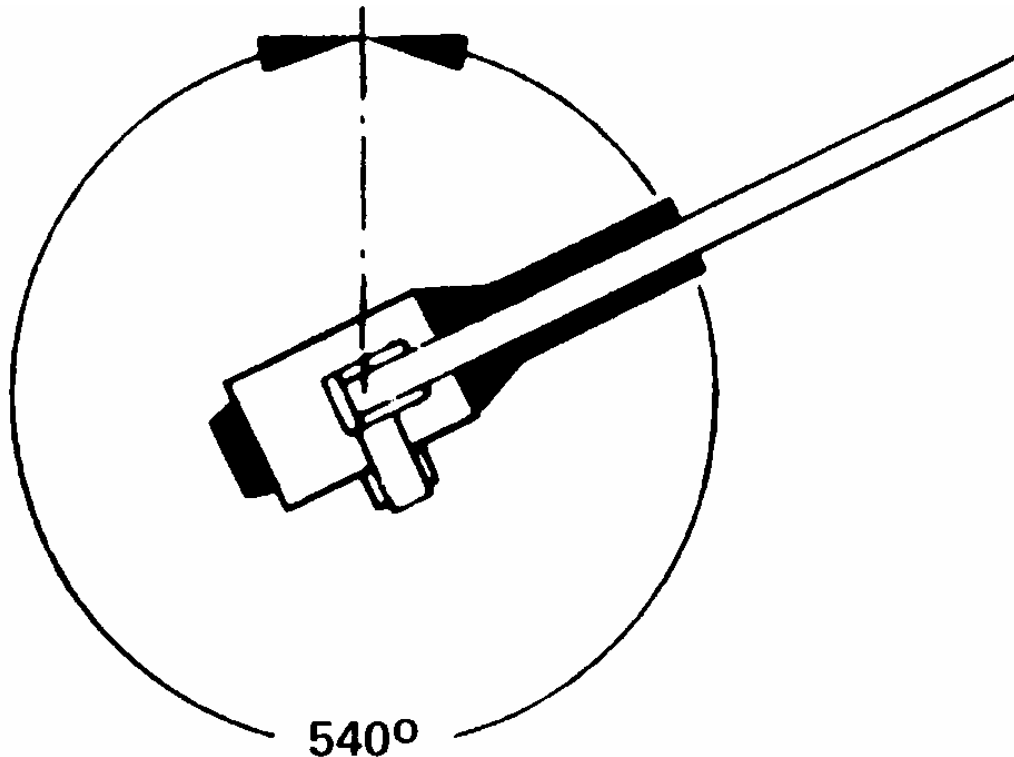

Figure 3-14. Tube head rotational stop.
a. If the tube head does not rotate from stop to stop for 540° (1 1/2 turns) there is a malfunction in the rotational parts. Refer to figure 3-14.